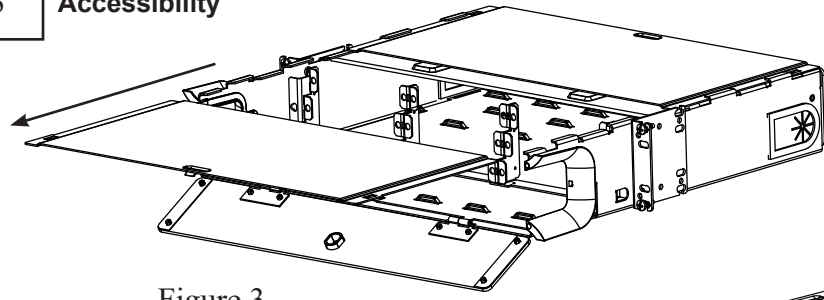

Figure 3
3.1 Opening the Front Door & Cover: (See Figure 3)